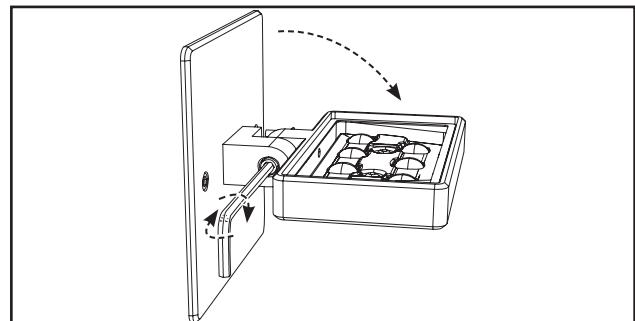

Figure 4.
6. Using a 9/64" allen key, loosen the knuckle bolt and flip the fixture head out of the upright locked shipping position and into normal position. Tighten the knuckle bolt with a 9/64" allen key. (Figure 4.)